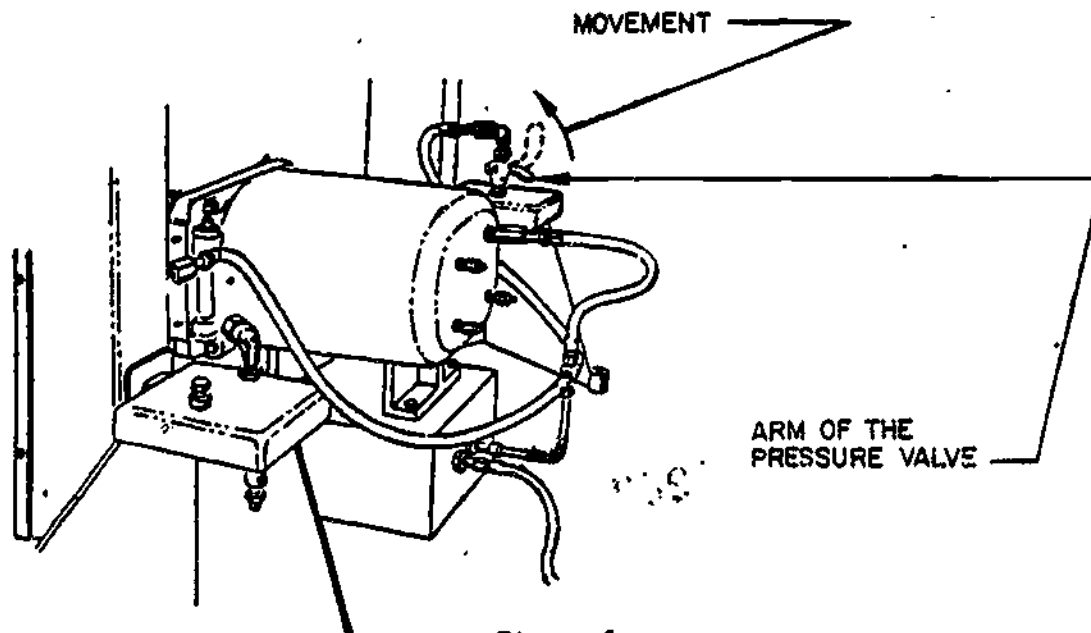

Figure 5.
f. Open the pressure valve on the water manometer by turning the arm of the valve so that it is straight up and down, see figure 5.